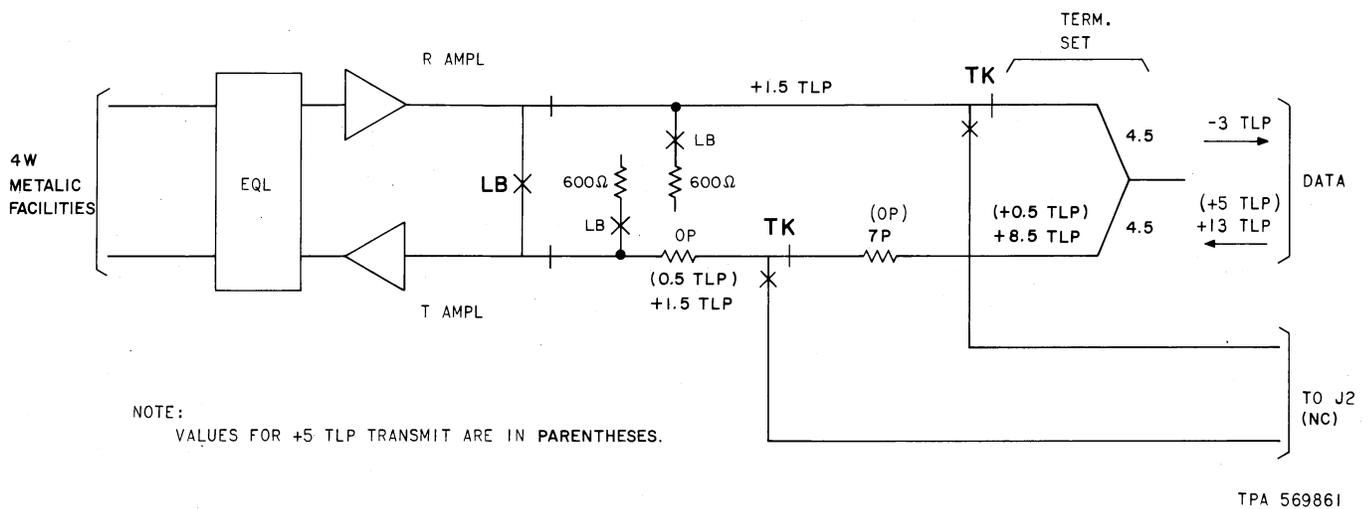

Fig. 16—Circuit Design for Data Only, 2-Wire Modem
4.07 In Fig. 16 and 18, term set losses of 4.5 dB are assumed in each direction of transmission. Because of this loss it is not possible to provide equal-level loop-back when the modem transmit level is -8 dBm. For this case, a looped back signal is raised 1 dB.